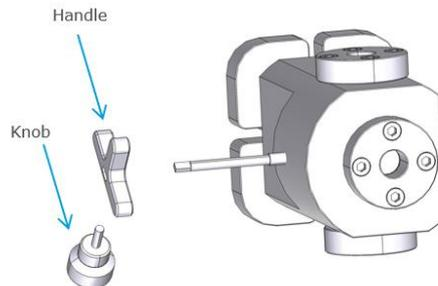

Fig. 7 Mounting the knob and handle
4. Mount the handle and the knob to the rod (Fig. 7).